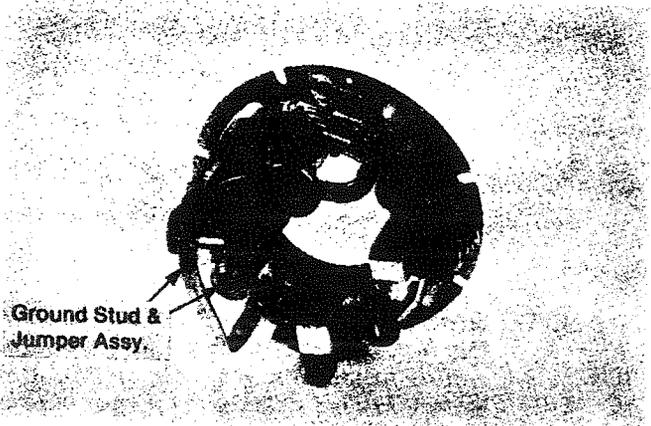

Figure 26
4. Install ground stud and jumper assembly to brush support plate assembly with 4 socket head screws. Torque to 25-35 lbs. in. See figure 26 and note the position of jumper assembly.